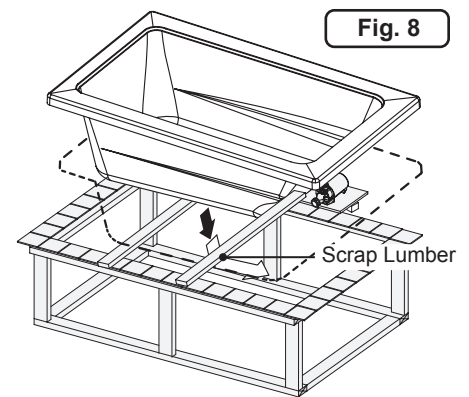

Fig. 8
3. Place a piece of scrap lumber on each of the ends of the cutout – this will be used as a temporary support prior to lowering the bathtub fully into the opening (Figure 8).